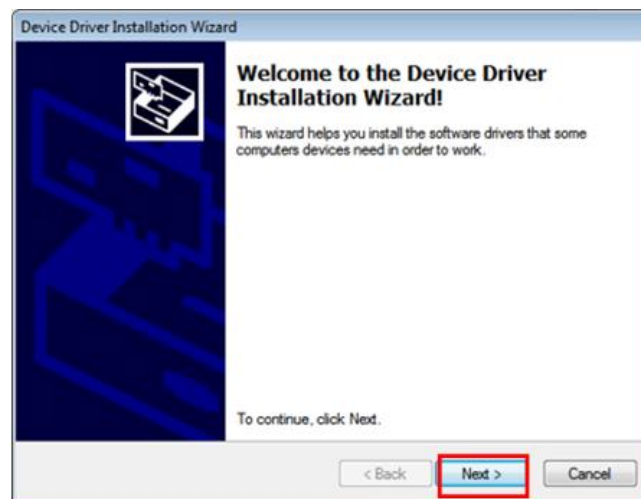

Fig. 3.10
2)Click 'Next' (Fig. 3.4), until installation is completed (Fig. 3.10).